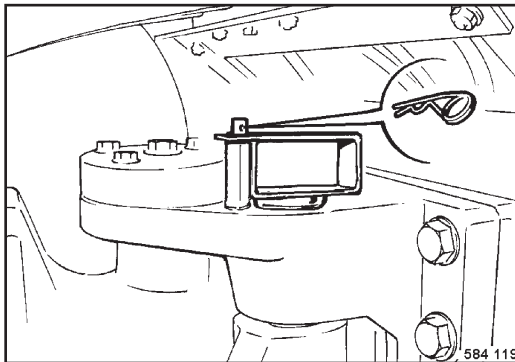

Fig. 76
- Engage the articulation lock and secure it with the spring pin (Fig. 76).